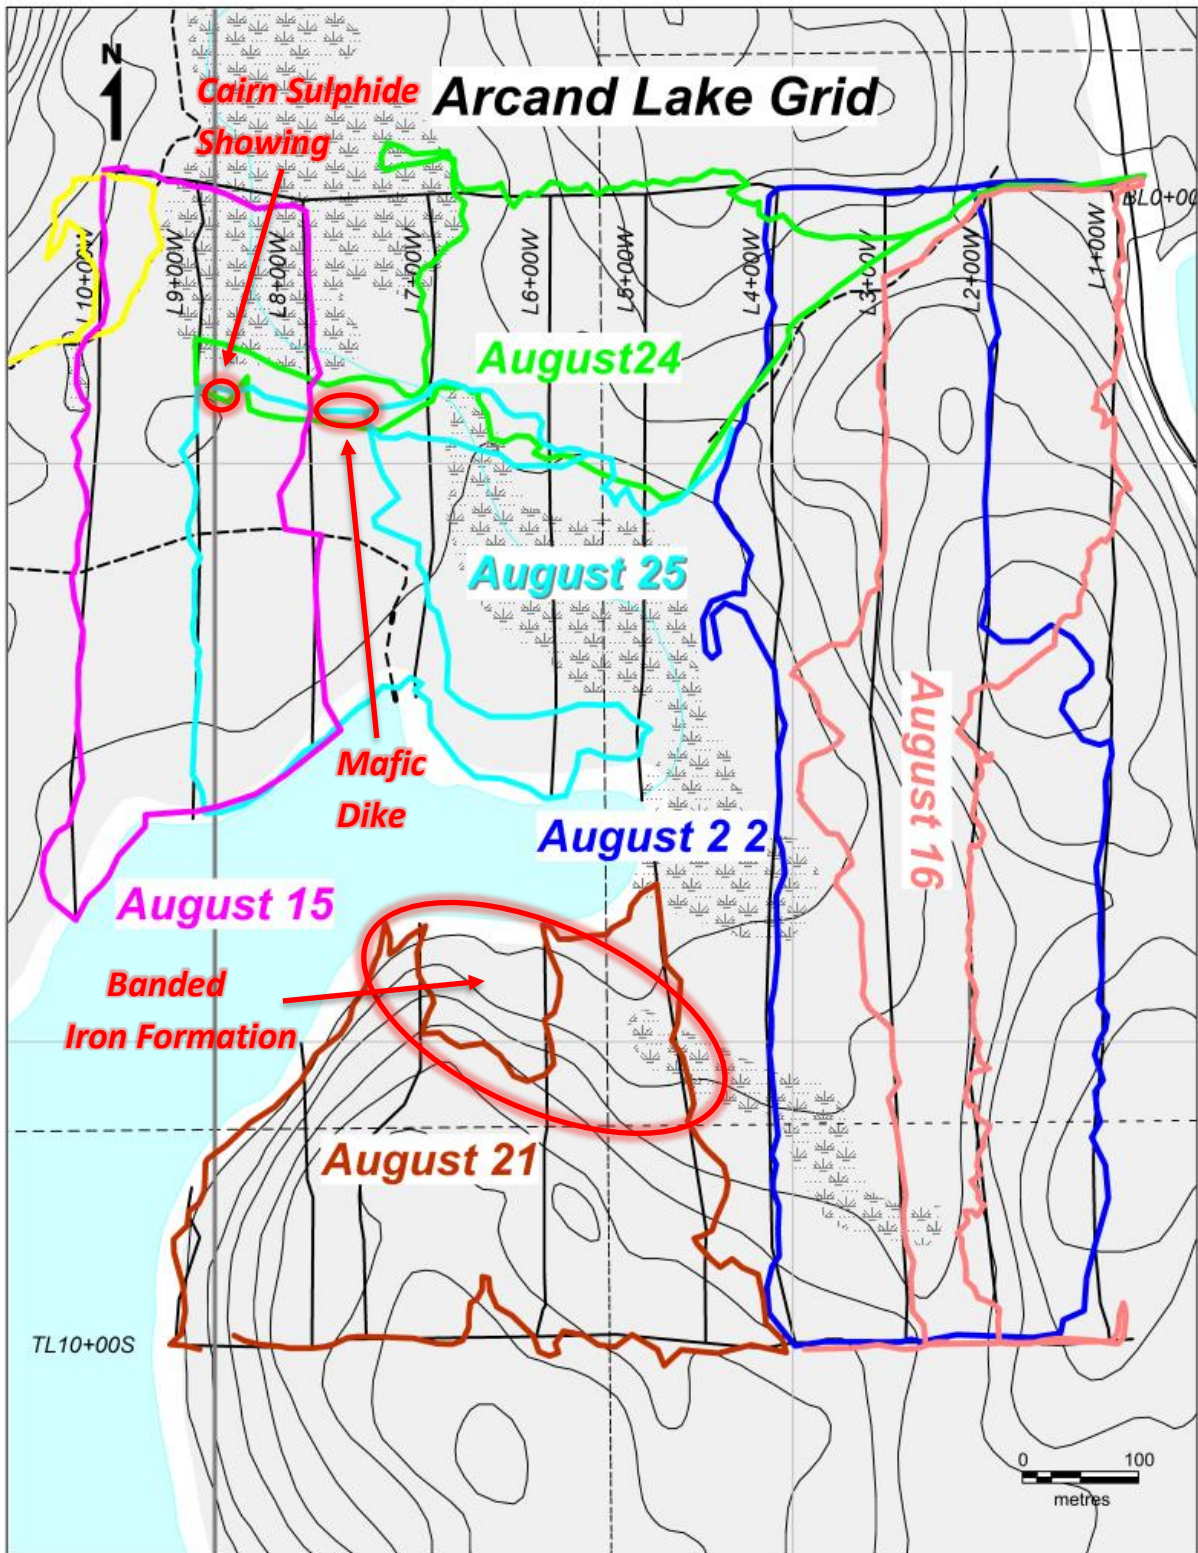

Figure 6: BeepMat Traverses and Anomaly Areas
- On the August 21 traverse anomalies were detected at waypoints 2020-500 to 2020-505 (Fig. 6 and Table 2). These can be interpreted as part of the previously mapped Banded Iron Formation and associated sulphide rich argillite (Sulphide Stringer Pits) (Geology Map, back pocket).
- On the August 25 traverse anomalies were detected at Waypoints 2020-555 to 2020-557 (Fig. 6 and Table 2), These anomalies represent the southern extension of a previously mapped magnetic mafic dike to the north. Possibly a late Preissic mafic dike (Geology Map, back pocket).